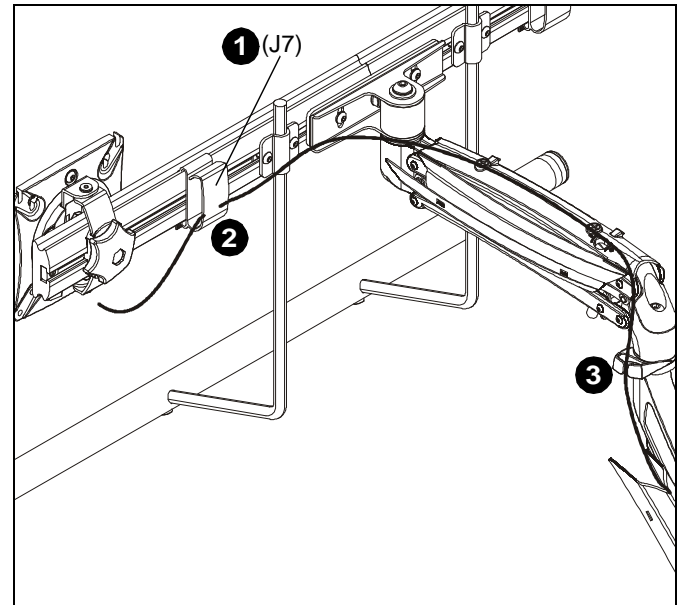

Figure 23
1. Install array cable clips (J7) to back of array. (See Figure 23)
2. Route cables through array cable clips (J7) as desired. (See Figure 23)
3. Route cables through arm cable clips as desired. (See Figure 23)